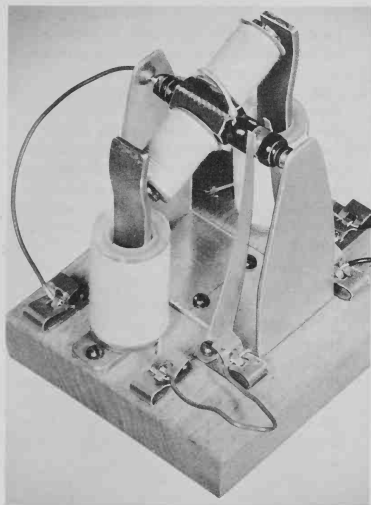

Fig. 18-35. A two-pole ac motor which may be connected as a series or shunt wound motor.
Again a motor may be built in many ways. If you wish to build one like the illustration in Fig. 18-35, follow the plans carefully. It would be better if you adapted the materials at hand and constructed the motor on your understanding of the principles.
1. The motor illustrated in Fig. 18-35 was built on a wooden base about 4 × 5 in. but any size base of a suitable material will be satisfactory. Sand and finish this base in an approved manner, which will demonstrate your skill as a good technician.